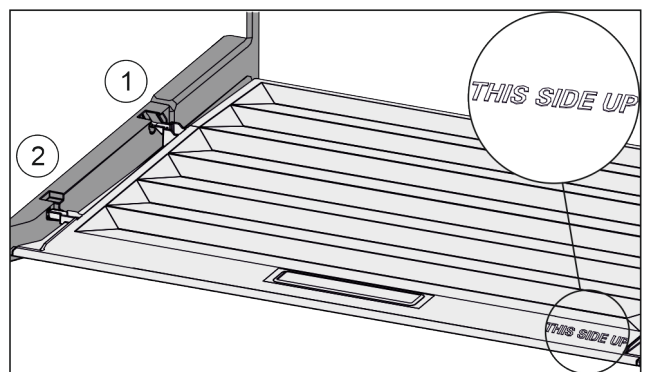

Fig. 54
- ▶ Insert the lip of the cover over the opening of the rear bracket *Fig. 54 (1)* and click into place *Fig. 54 (2)*.